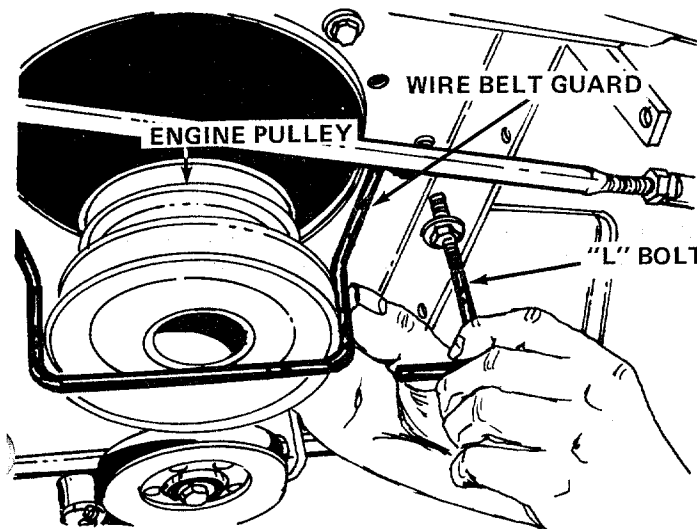

FIGURE 9
14. Unscrew the "L" bolt and swing the wire belt guard on the engine pulley forward. See figure 9.